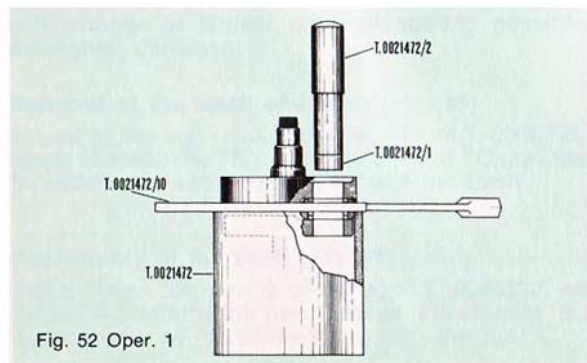

Fig. 52 Oper. 1
- 5) - Separate the shaft halves from the crank pin using the press 5479/A (fig. 52 - 53 op. 1 and 2).